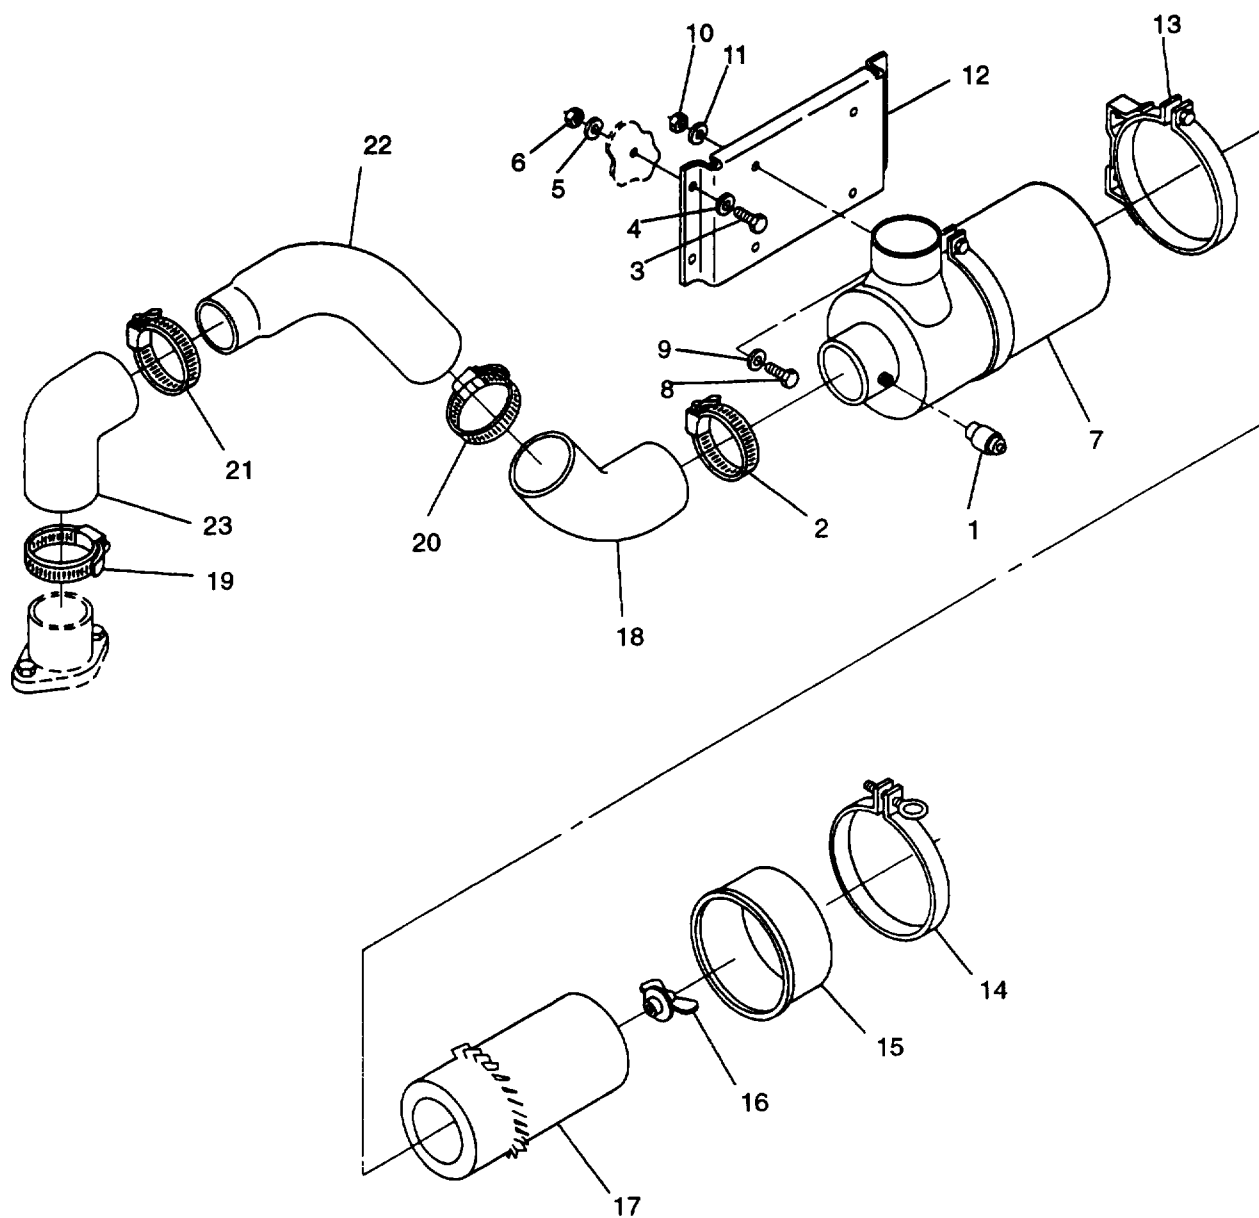

FIGURE 2-21. Air Cleaner Assembly
- c. Inspect air restriction indicator (1, FIGURE 2-21) for cracks, stripped threads, or other obvious damage.
- c. Unscrew air restriction indicator (1, FIGURE 2-21) from air cleaner housing (7).
- a. Install air restriction indicator (1, FIGURE 2-21) on air cleaner housing (7). Tighten hand tight only.
- d. Loosen clamp (2, FIGURE 2-21) and remove hose (18) from air cleaner housing (7).
- e. Remove bolts (3), washers (4), lockwashers (5), nuts (6), mounting bracket (12), and air cleaner assembly from generator set,
- f. Remove bolts (8), washers (9), nuts (10), lockwashers (11), and mounting bracket (12) from air cleaner assembly.
- g. If replacing air cleaner, remove and retain clamps (13).
- a. If removed, install clamps(13, FIGURE 2-21) on air cleaner housing (7).
- b. Install mounting bracket (12) on air cleaner assembly with bolts (8), washers (9), lockwashers(11), and nuts (10).
- c. Install air cleaner assembly and mounting bracket (12) on generator set with bolts (3), washers (4), lockwashers (5), and nuts (6).
- d. Install hose (18) and clamp (2) on air cleaner housing (7). Tighten clamp (2).
- c. Loosen clamp (14, FIGURE 2-21) and remove cover(15) from air cleaner housing (7).
- d. Remove wing nut (16) and filter element(17) from air cleaner housing (7).
- c. Inspect element (17, FIGURE 2-21) for debris and damage, replace as necessary.
- d. Wipe inside of air cleaner housing (7) with cleaning cloth (Item 7, Appendix C).
- a. Install filter element (17, FIGURE 2-21) in air cleaner housing (7) and tighten wing nut (16).
- b. Install cover(15) on air cleaner housing (7), tighten clamp (14).
- c. Loosen clamps (2 and 19, FIGURE 2-21).
- d. Remove hoses (18), (22), and (23).
- e. Loosen clamps (20) and (21) and separate hoses (18), (22), and (23).
- a. Connect hoses (18 and 22, FIGURE 2-21) with clamp (20). Do not tighten clamp.
- b. Connect hose (22) to hose (23) with clamp (21). Do not tighten clamp.
- c. Install hoses (18), (22), and (23), and secure with clamps (19) and (2).
- d. Tighten clamps (2), (19), (20), and (21).